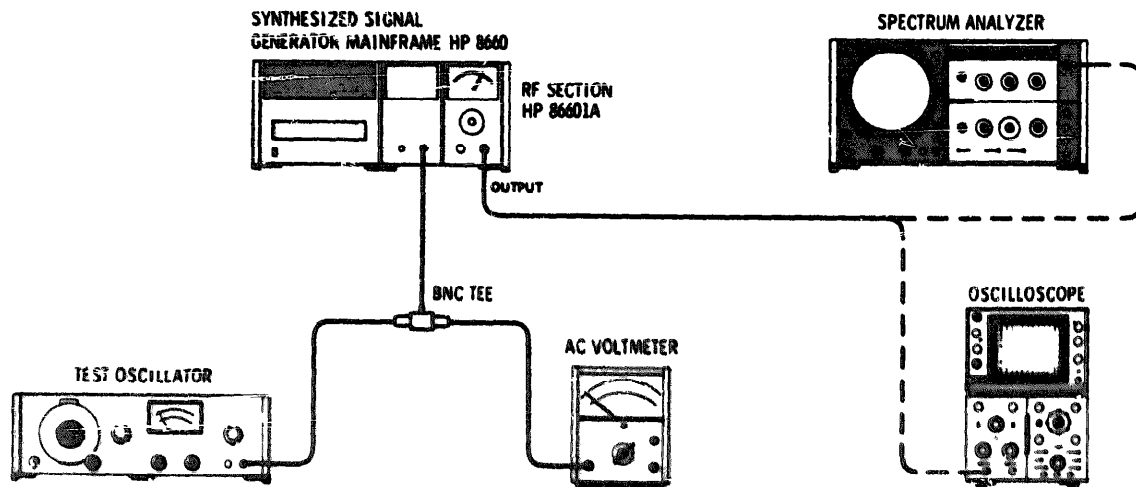

Figure 4-9. Amplitude Modulation Test Setup
1. Connect the equipment as shown in Figure 4-9.